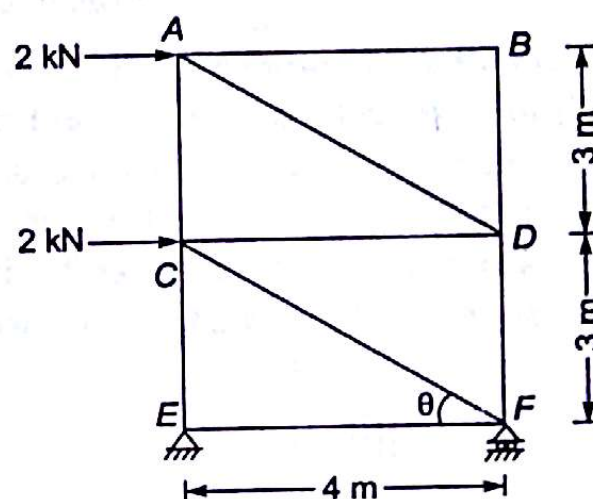

Fig. 4.51
4.22 A pin jointed lower truss is loaded as shown in Fig. 4.51. Force induced in member DF is